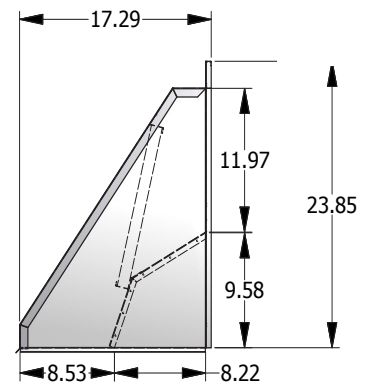

Figure 5
8. Assemble hood per the instructions on page 2. (Figure 5)